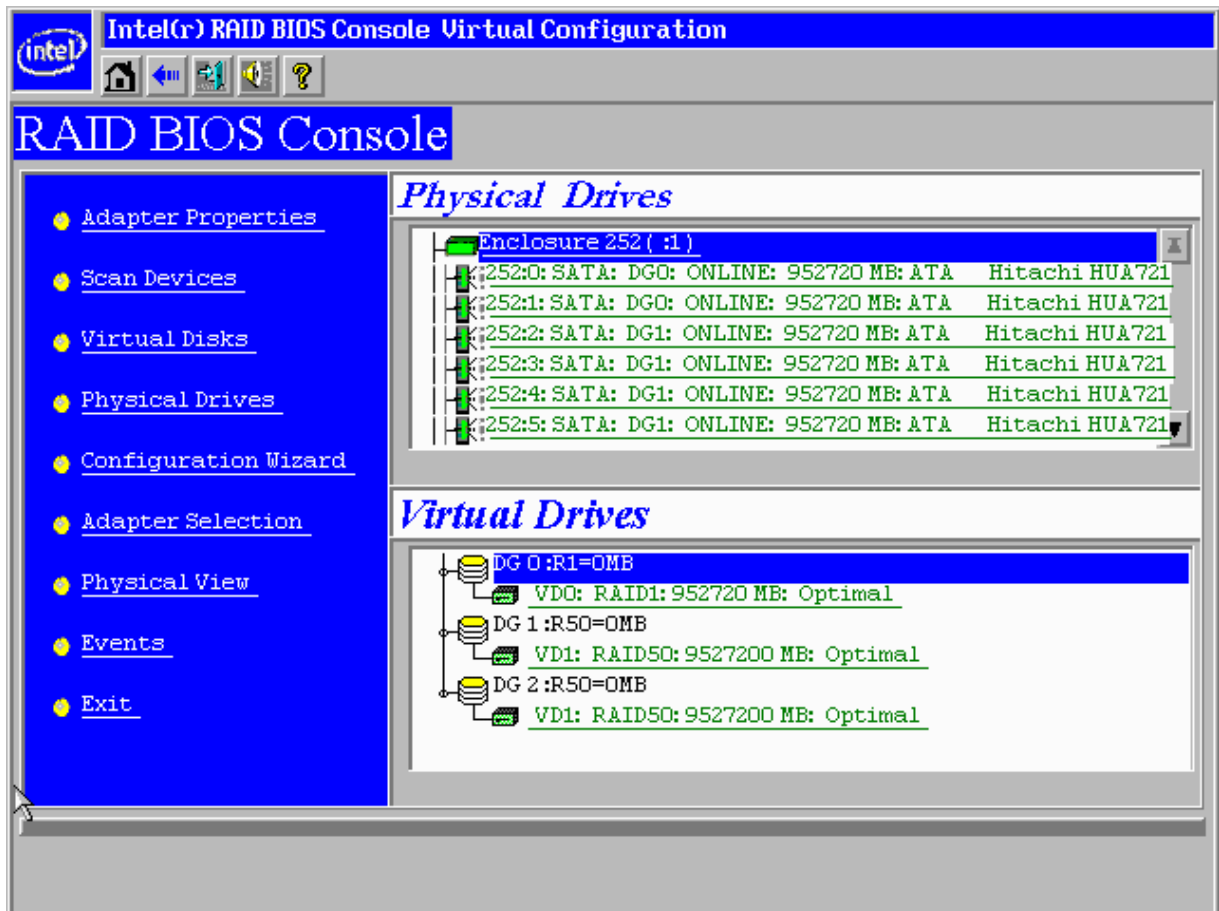

Figure 35. RAID BIOS Console Virtual Configuration Screen
29. Confirm the RAID1 and RAID50 configuration on the next screen (see Figure 35).